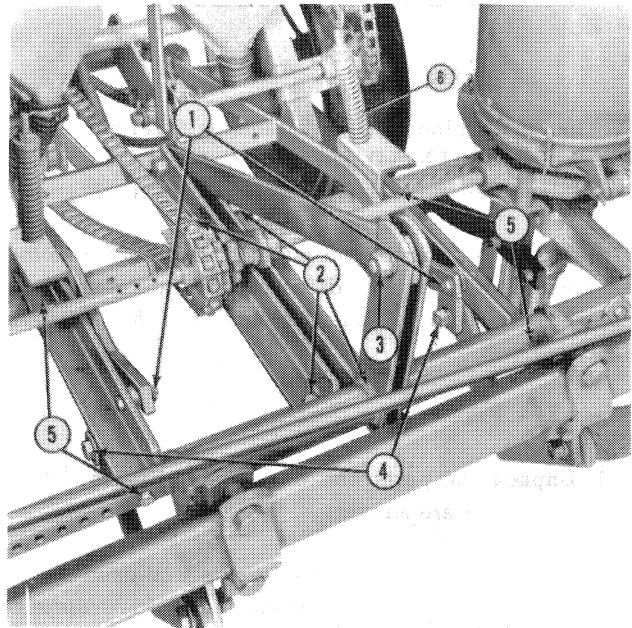

Figure 8
7. Install the drive wheel pressure spring assemblies (6), Figure 8, with each bolt placed up through the hitch brace and the stop on the wheel frame
4. Bolt the two hitch braces to the front and rear tool bars of each unit, at the points shown at (5), Figure 8. The nuts, bolts, and lock washers to be used are already positioned in the front and rear tool bars of the basic planter units.
- front and rear tool bars at the four points (2), Figure 8. The bolts used are 7/16" x 1-3/4" at the rear tool bar and 7/16" x 2-1/2" at the front tool bar.
6. Attach the front ends of the wheel frame assembly to the hitch braces, using the four 7/16" x 2-1/2" bolts and spacers provided with the hitch assembly. Two of these bolts are shown in place at (1), Figure 8.
8. Install the drive wheel pressure spring assemblies (6), Figure 8, with each bolt placed up through the hitch brace and the wheel frame stop as shown. Place a spring over each bolt and secure each spring with a bushing and two lock nuts.
11. Move the four-row tool bar into position. Attach the "L" shaped rear pick-up links to the link supports on the four-row hitch braces using the 5/8" x 2" bolts as shown at (4), Figure 8.
12. Lift the tool bar into position and attach the brace bars in position using the 5/8" x 1-1/2" bolts and spacers as shown at (3), Figure 8.
5. Attach the "L" shaped pick-up links to the link supports using the 5/8" x 2" bolts as shown at (4), Figure 8.
6. Attach the rear pickup links using the 5/8" x 1-1/2" bolts and spacers as shown at (3), Figure 8.